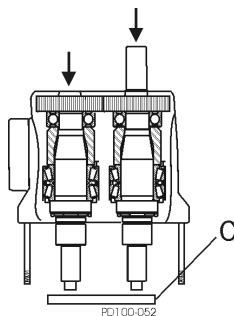

Figure 43 - Press Shafts from Gear Case
5. Place the gear case on an arbor press with the liquid end facing down. Protect the shaft ends with a wood or plastic block (Figure 43, item C) and press the shafts out of the gear case.